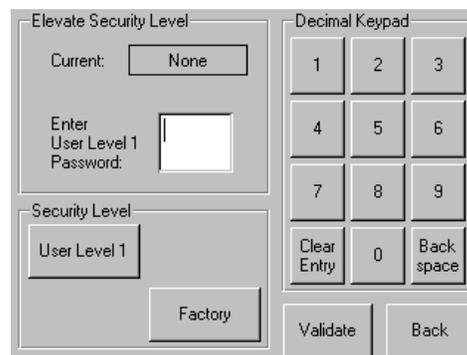

Figure 3-13: Validating a Library Password
2. Press the **Security Level** button for the password that you want to validate (Figure 3-13).
In the example shown in Figure 3-13 above, we set the User Level 1 password, which controls access to the Mail Slot.